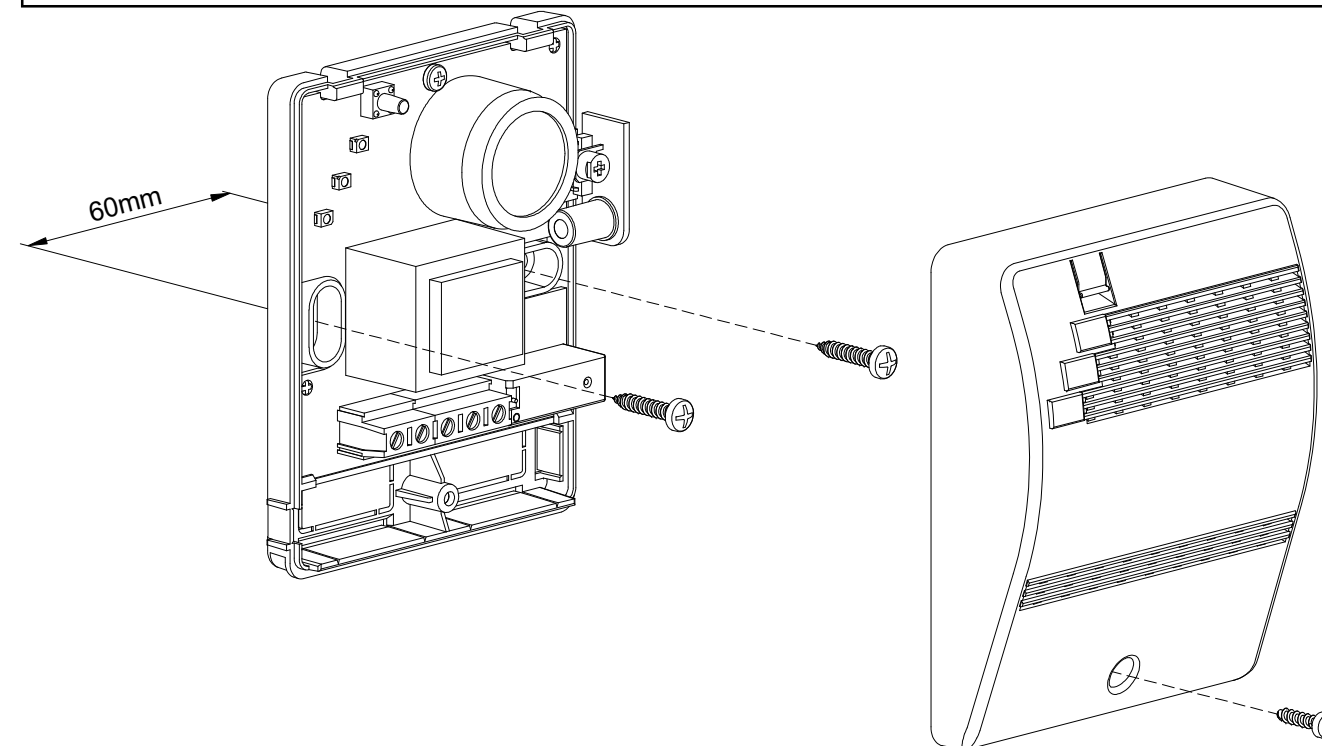

Fig. 2: Installation example of BEAGLE *plus* -.
3. Remove the detector's panel as shown in Fig. 2.